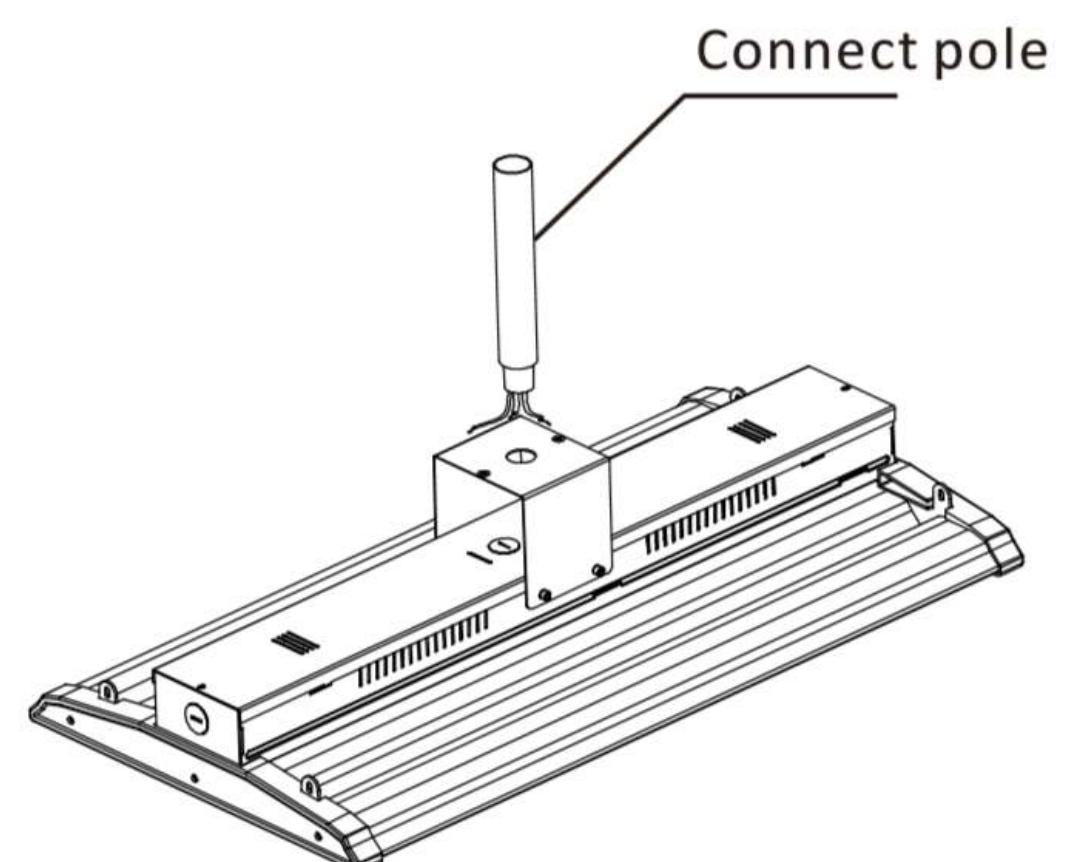

Figure 3
Step 2: Put power wire through the connecting pole (Figure 3)